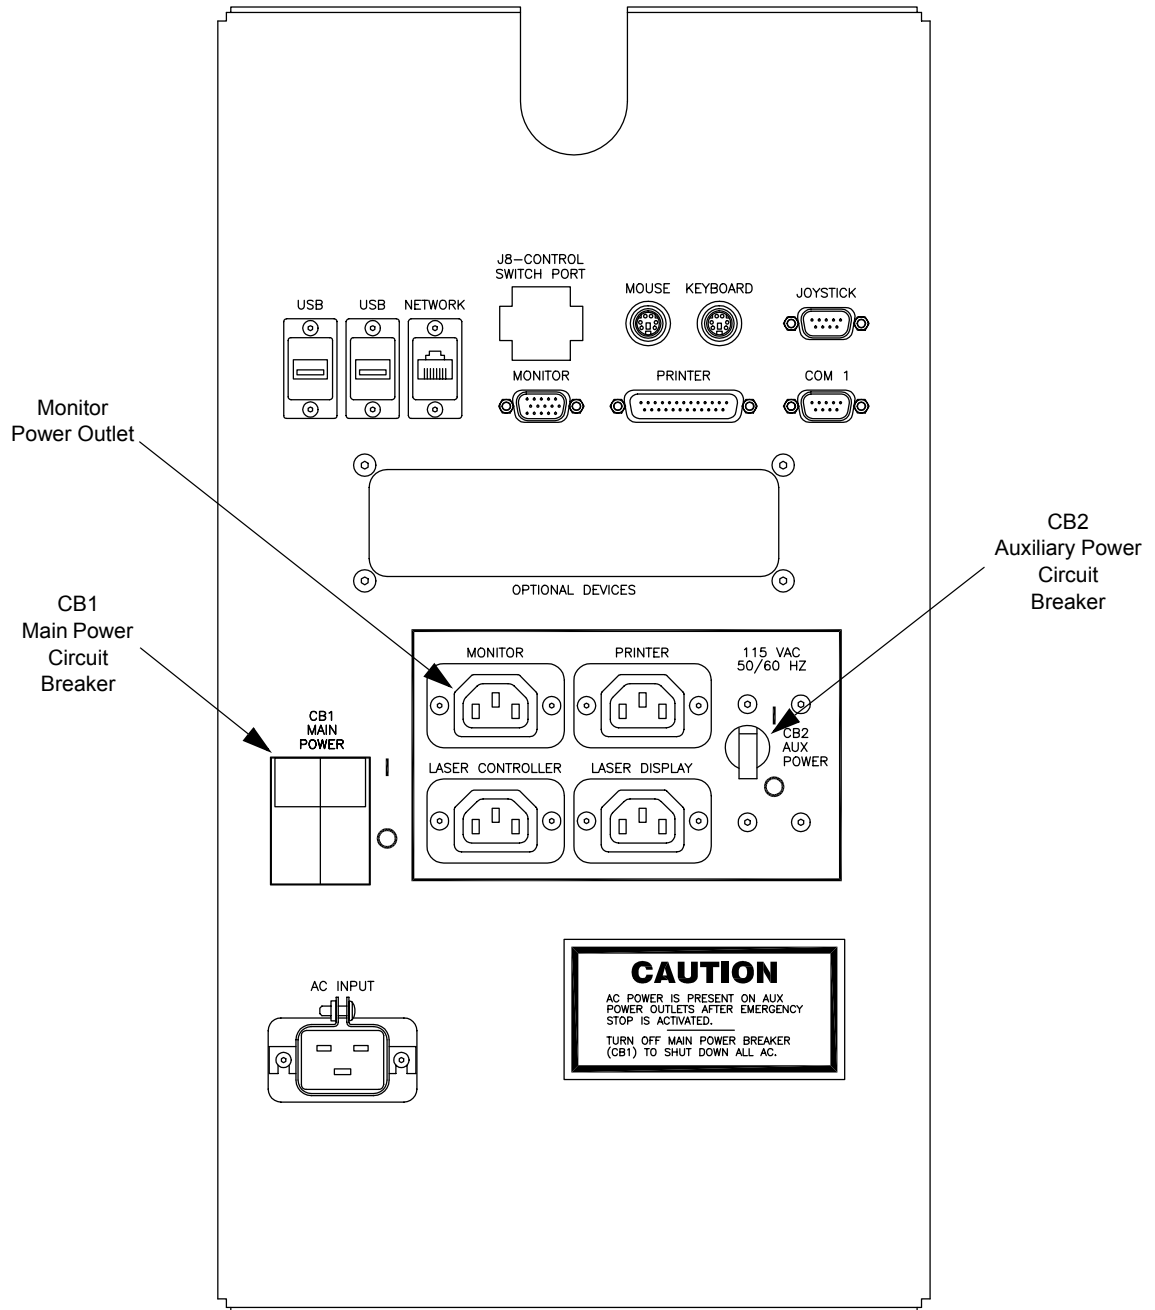

Figure 4-5 Rear Panel of Summit 800 System
2. On the rear panel (refer to Figure 4-5), check that CB1, the MAIN POWER Circuit Breaker, is set to the “1” or “up” (ON) position.